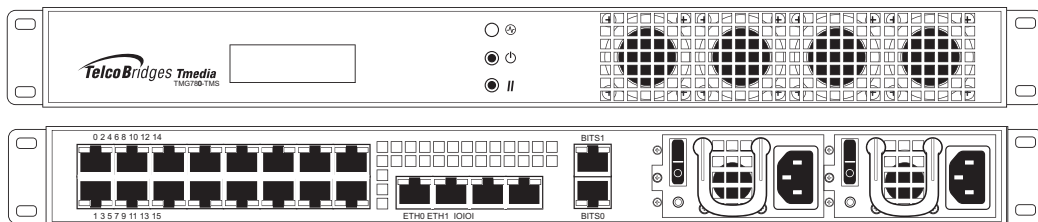

Figure 1.3 TMG7800-TMS Front and Rear Views
- Based upon the configuration of your Tmedia TMG7800 VoIP Gateway, the number of TMG7800-TMS media switch(es) may range from zero (0) to two (2). See figure 1.3 on page 3.
- One (1) TMG7800-TMS unit. See figure 1.3 on page 3.
- Three (3) CAT5 Ethernet (blue) straight cables (male-male), 3 meters in length.
- One (1) DB-9 to RJ-45 adapter to interface the serial port of your computer with the RJ-45 port of the TMG7800-TMS.
- One (1) set of mounting brackets and screws, used to mount the TMG7800-TMS to a 19" rack.
- One (1) Important Notice (two-sided document containing pertinent product serial numbers, and other important information).
- One (1) Product Warranty.
- One (1) packing slip.
- One (1) Quick Installation Guide (two-sided document that provides a pictorial view of the equipment setup).
- Two (2) AC or DC power cables